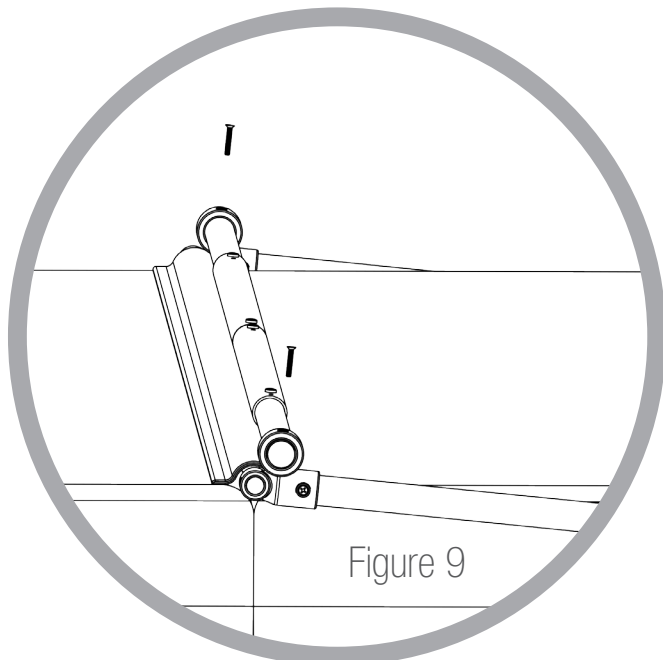

Figure 9
- Insert both ends of the connection arm into the Plastic Support (cvPS) and fasten them using Set Screws (cvK) as shown in fig. 9